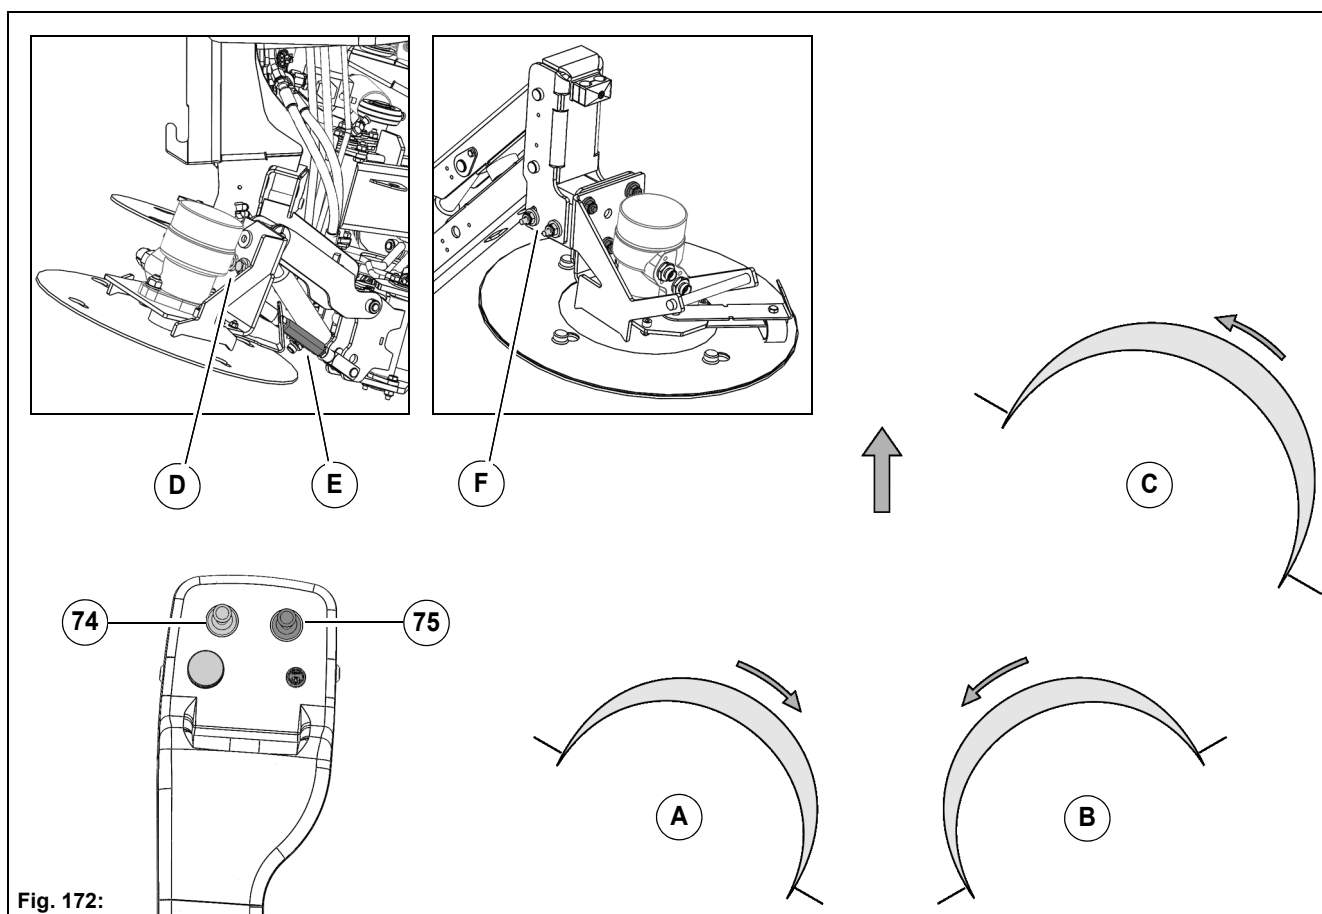

Fig. 172:
The sweeping level **Fig. 172-A** and **Fig. 172-B** for the pulled rotating brushes is adjusted in the factory with the screws **Fig. 172-D** and **Fig. 172-E**.
The sweeping level **Fig. 172-C** for the 3rd rotating brush is set in the factory using the screws **Fig. 172-F**.
- Left rotating brush **Fig. 172-A** from 10 a.m. to 4 p.m.
- Right rotating brush **Fig. 172-B** from 8 a.m. to 2 p.m.
- 3rd rotating brush **Fig. 172-C**: